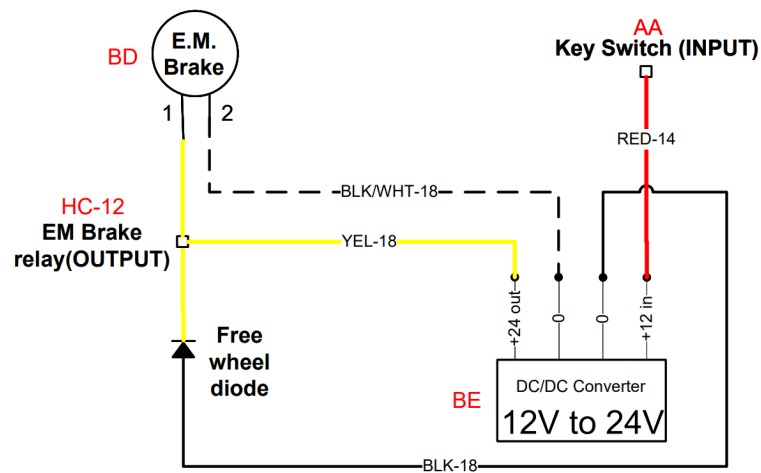

Figure 71. DC/DC Converter Input and Output Terminals Inspection.
2.1.1. Check for the presence of voltage between the positive terminal (**B+**) (Red Wire - 14 AWG) and the negative terminal (**B-**) (Black Wire - 18 AWG) of the DC/DC converter (As shown in Figure 71).
2.2.1. Check for the presence of voltage between the Yellow wire (18 AWG) and the Black/White wire (18 AWG) of the DC/DC converter (As shown in Figure 71).